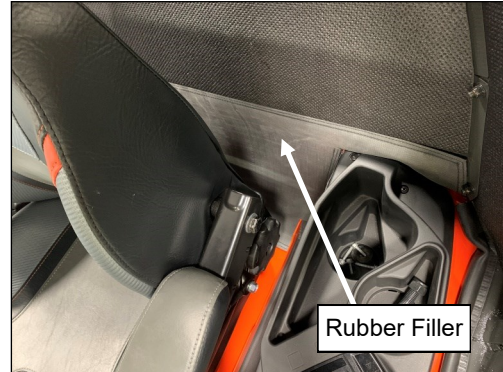

Fig. 10.4 (Filler Location)
10.4 See fig. 10.4. Install the upper portion of the rubber filler along the bottom edge of the rear panel to locate it and then secure under the seat and along the sides.